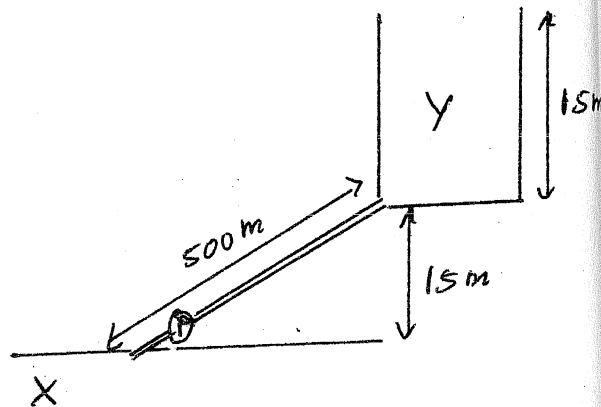

FIGURE 8
8) A centrifugal pump is used to pump water from Reservoir X to Tank Y, as shown in Figure 8. The pipeline AB has a length of 500 m , a diameter of 50 mm and a friction factor of 0.01. Tank Y has a uniform cross-sectional area of 5 m^2 and a maximum depth of 15 m . The bottom of Tank Y is 10 m above the water level of Reservoir X and Tank Y is empty when pumping begins.